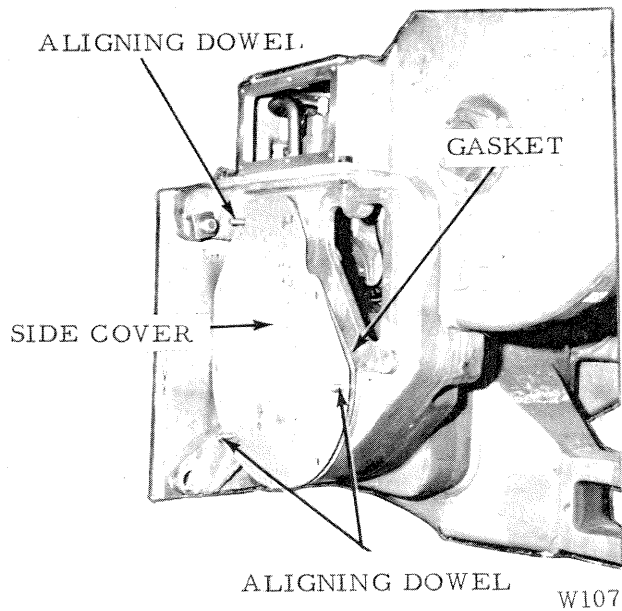

Figure 16
10. Attach the side cover and gasket, using aligning dowels. Fig. 16.
4. Attach the covers and gaskets to the left side of the winch. Fig. 16.
1. Remove the cover from the left side of the winch. Fig. 16.